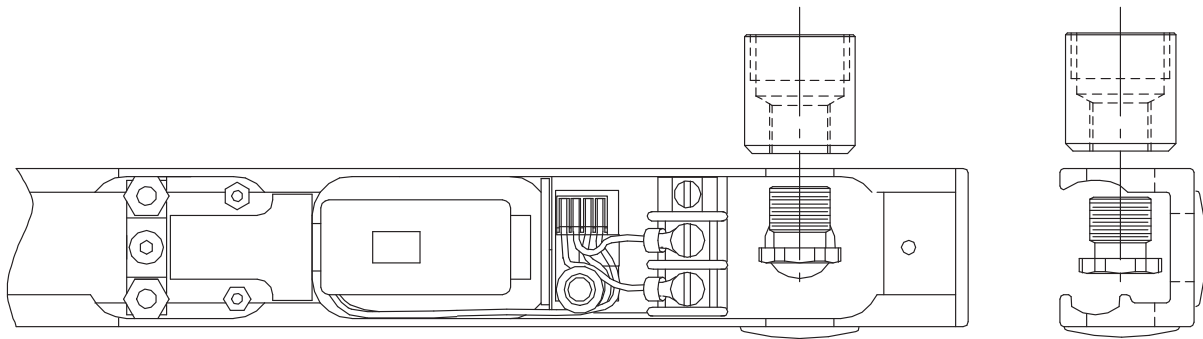
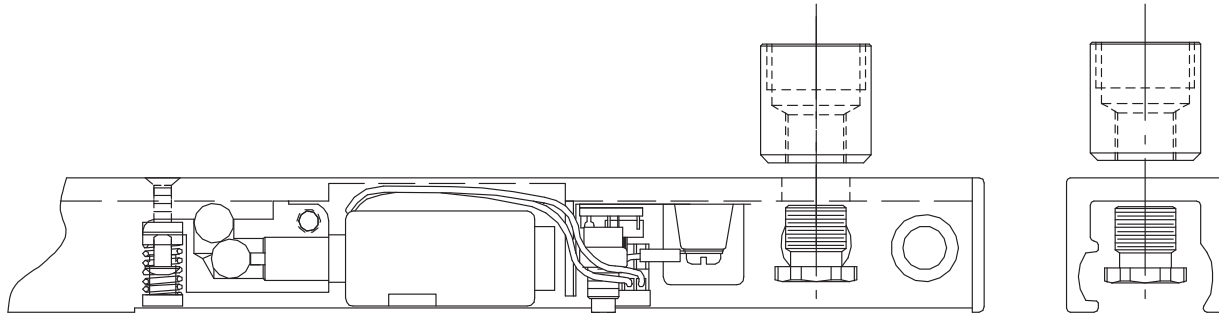
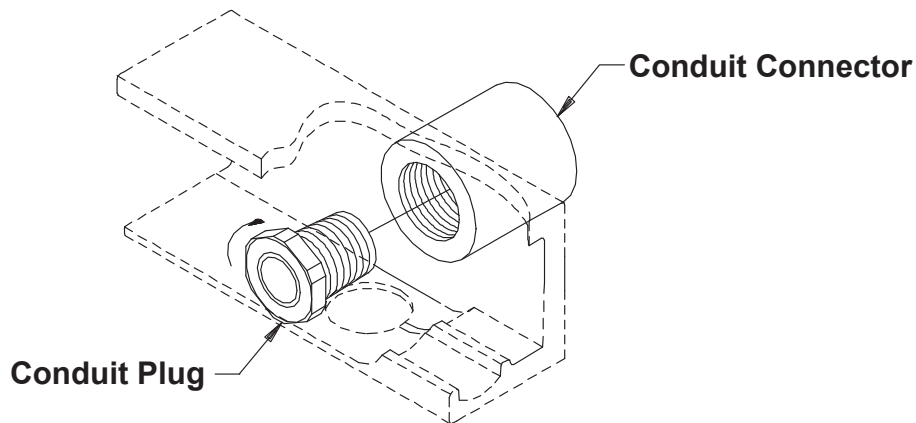

Fig. 1
Fig. 2
Fig. 3
- 1c During step 3 on the closer installation instructions, make sure that the Conduit Connector is secured flush against the track surface. See option in Fig. 1 below that matches the mounting option selected for track surface. With the track mounted, take the Conduit Plug and slide it through the 1/2" hole in the track. (see Fig.2) Tighten the Plug into the Conduit Connector using a 5/8" wrench, until completely secure, as shown in Fig.3.